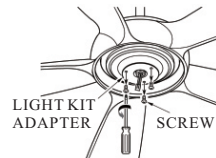

FIG.12
2. Remove 3 screws on light kit adapter.(see Fig. 12)